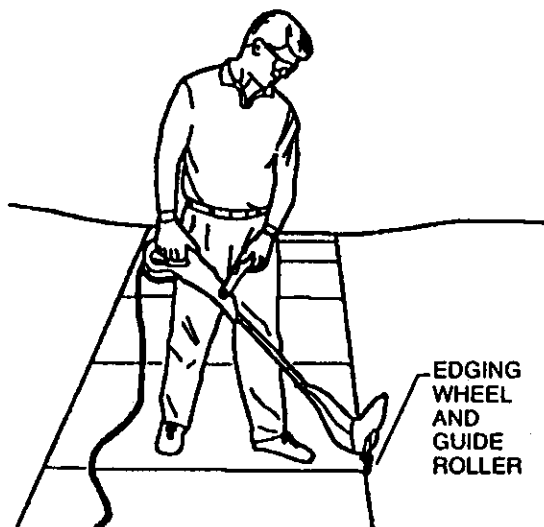

Fig. 13
6. OPERATING AS AN EDGER (Figure 13). With the unit configured as an edger, hold it so the motor is to your left side so that debris is thrown to the rear. Always use eye protection. This unit is equipped with an edging wheel and guide. Use the wheel to support the weight of the unit as you edge along flat surfaces such as driveways and sidewalks.